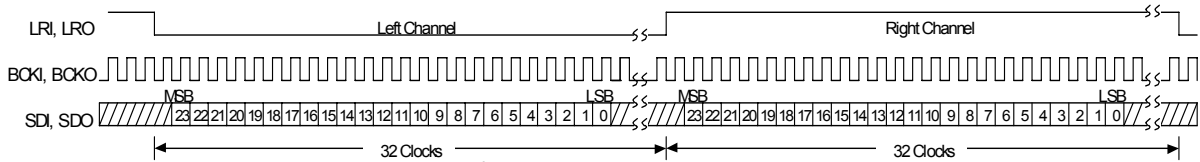
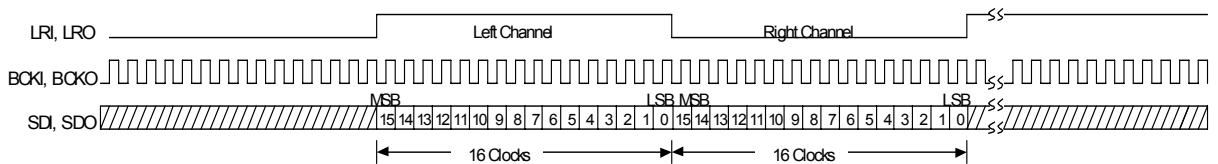

Fig.5-1 I²S Data Format 64fs, 24bit Data
Fig.5-12 Right-Justified Data Format 32fs, 16bit Data
The NJU26041 Series can use three kinds of formats hereafter as industry-standard digital audio data format; (1) I²S (2) Left-Justified (3) Right-justified and 16 / 18 / 20 / 24bits data length. (Fig.5-1 to Fig5-12)